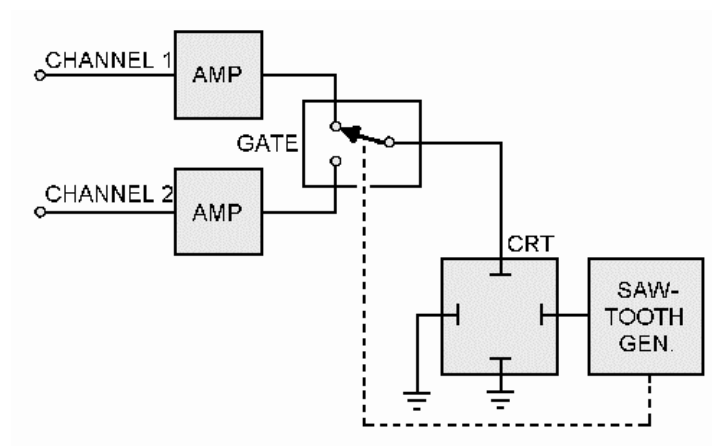

Figure 6-35.—ALT (alternate) mode.
**ALT.**—The ALT (alternate) mode (figure 6-35) of obtaining a dual trace uses the techniques of GATING between sweeps. This control allows the signal applied to channel 1 to be displayed in its entirety; then, channel 2 is displayed in its entirety. This method of display is continued alternately between the two channels. At slow speeds, one trace begins to fade while the other channel is being gated. Consequently, the ALT mode is not used for slow sweep speeds. The CHOP mode, shown in figure 6-36 (explained next), will not produce a satisfactory dual sweep at high speeds. The ALT mode is deficient at low speeds. Therefore, both are used on dual-trace oscilloscopes to complement each other and give the scope a more dynamic range of operation.